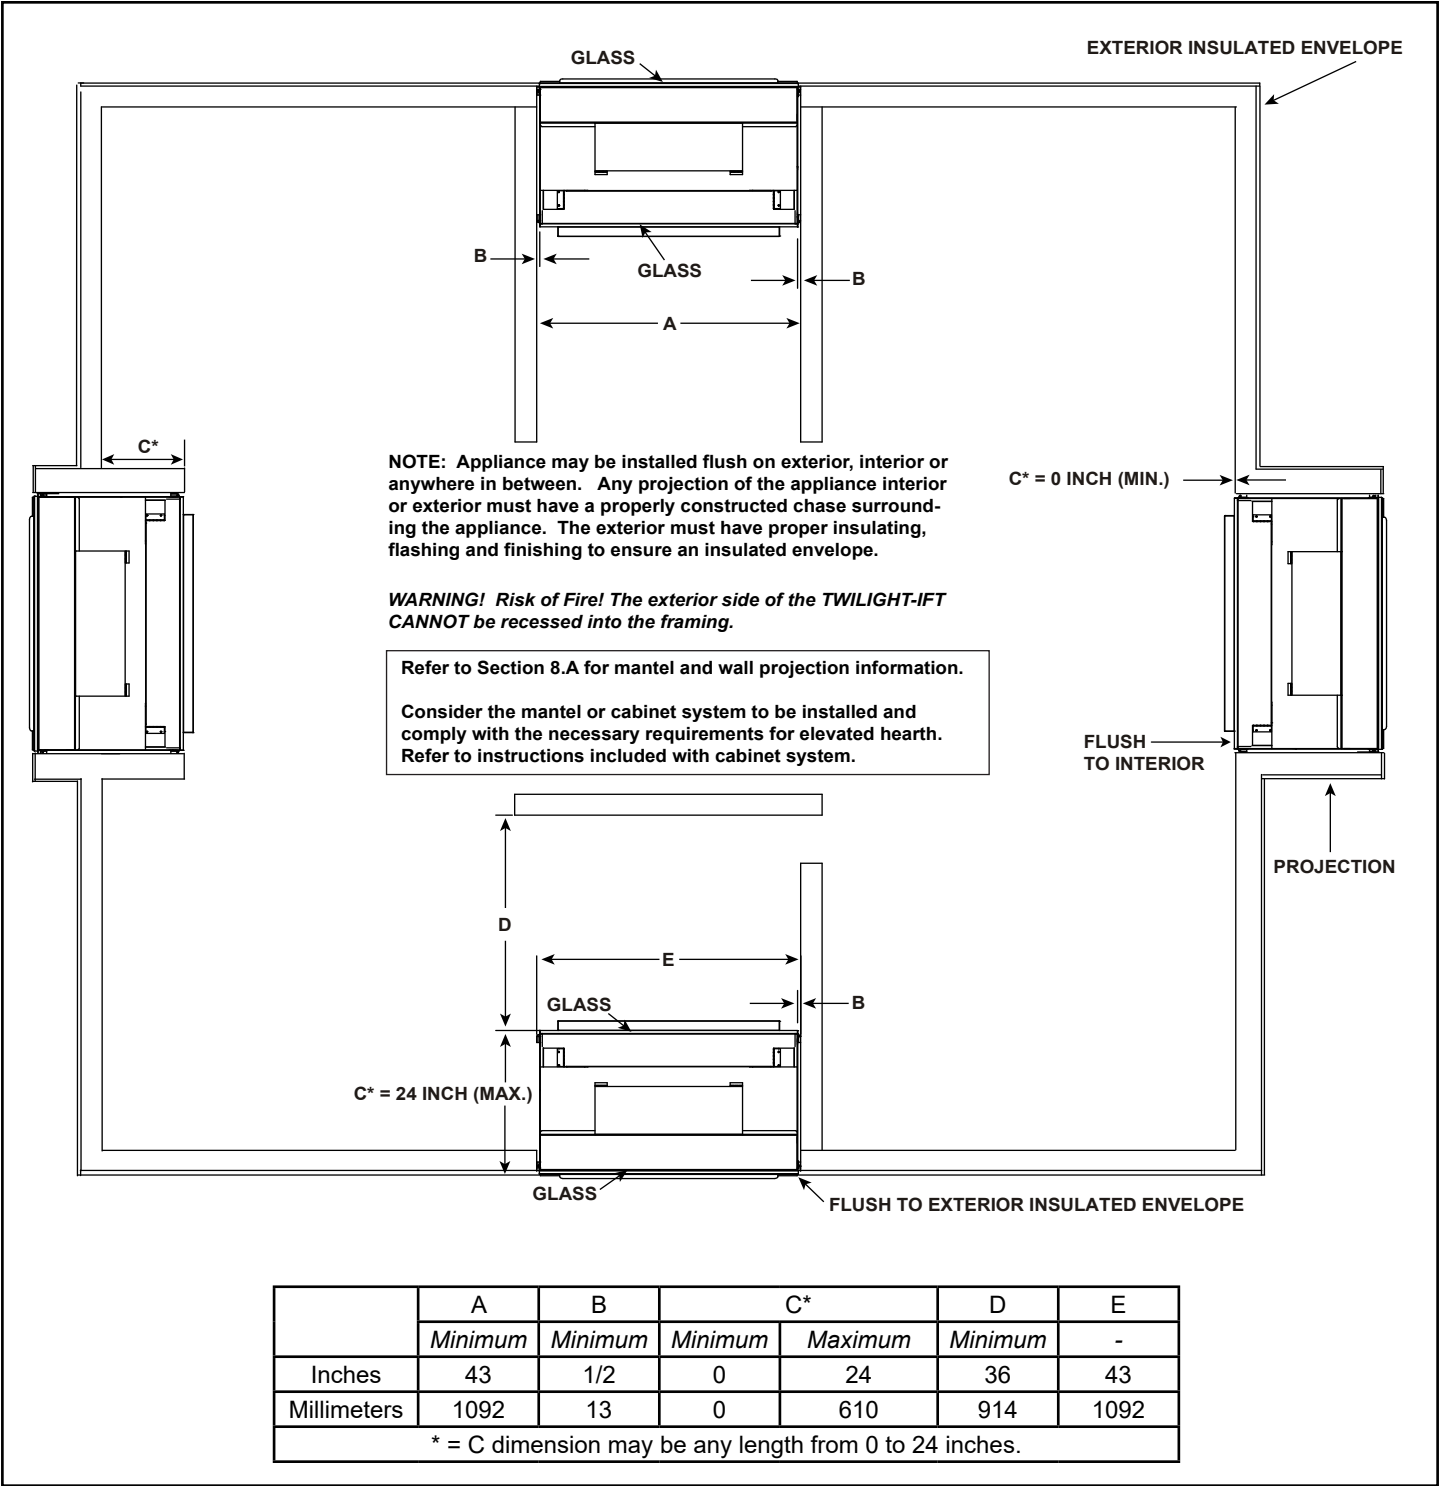
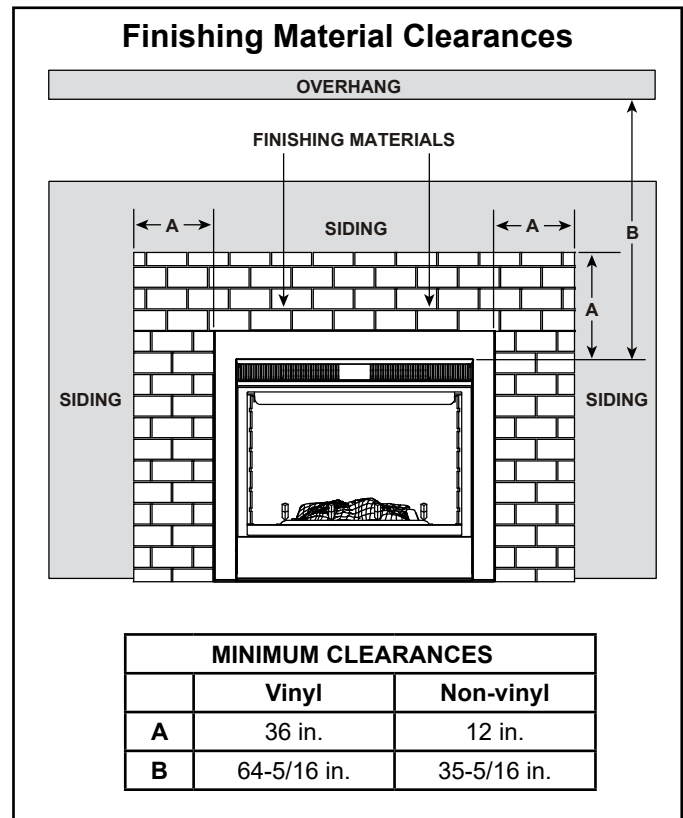

Figure 3.2 Appliance Locations
Figure 3.4 Exterior View - Finishing Material Clearances
When selecting a location for the appliance it is important to consider the required clearances to walls (see Figure 3.2).
- Reference Figure 3.2, Figure 3.3, and Figure 3.4 for clearance specifications.